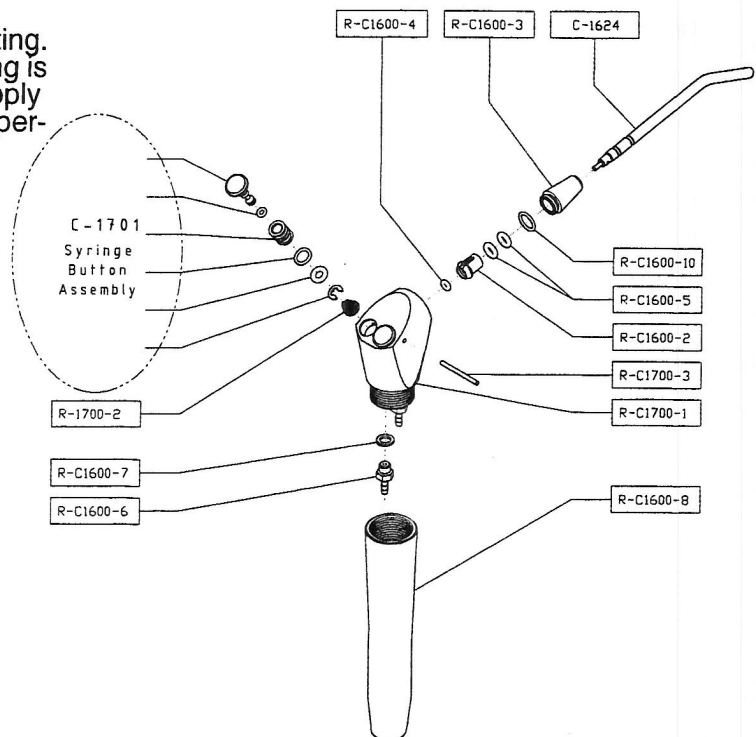

Figure 12. Syringe.
2. Replace the tip by inserting a new one into the tip socket, and firmly pushing into place until you feel it softly "pop" into place. To ensure it has been fully inserted, the uppermost small groove on the tip shank must be just visible over the end of the socket. *See Figure 12.*
Solution: Replace the button assembly # C-1701 (See figure 12). Turn water and air supply off. Depress air and water buttons on Syringe to relieve residual pressure. Hold both buttons down and use a paperclip to push cross pin out of syringe head. Gently remove button from head, being careful not to lose conical spring beneath. To install new button, ensure that conical spring is seated with the small end pointing up. Gently push into place and hold both buttons down firmly while re-inserting cross-pin.
Solution: Ensure tip is properly and fully inserted. If so, replace O-ring #R-C16004 (See Figure 12). Twist conical tip socket assembly (R-C21600-3) off of syringe head to access this O-ring. When re-installing tip socket assembly, hand tighten only. If tip cannot be fully inserted, then socket is too tight.